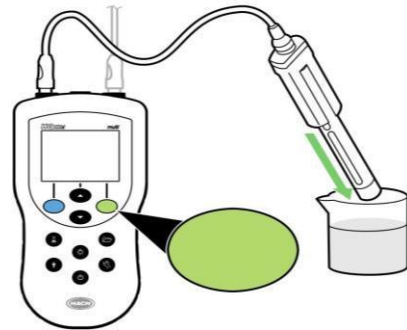

Figure 10: Press the green button to record a reading
- o Press the green button below **Read** on the screen and wait for probes to stabilize (Figure 10). You will hear a beep when stabilization is complete and readings have locked in.